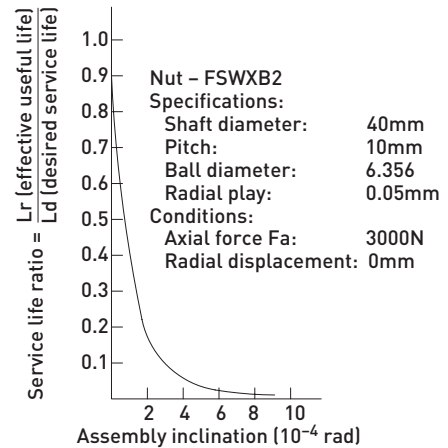

Fig. 3.2 **Impact on durability** of a radial load caused by misalignment
b) It is particularly important to eliminate or limit the misalignment between the centre distance of the bearing housing and the centre distance of the ballscrew, which would lead to unbalanced loads. Unbalanced loads can consist of radial loads and moment loads (Fig. 3.1), which can cause malfunctions and reduce service life (Fig. 3.2).